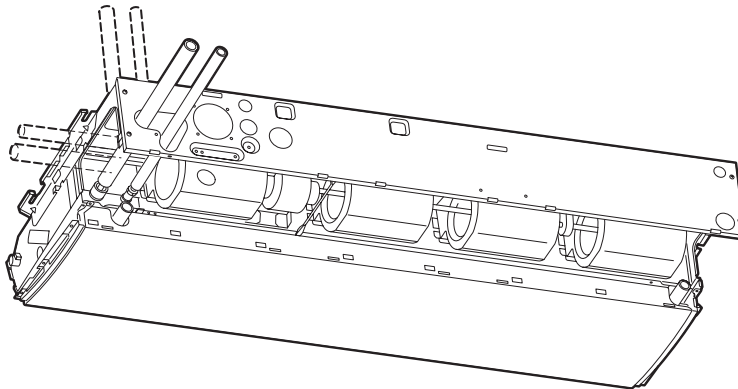

Fig. 3-51
* If the drain hose is routed through the left side, refer to Fig. 3-51, and follow the procedure above to install the hose. Rettach the rubber stopper removed earlier onto the right side. The rubber stopper can be inserted easily by using a screwdriver or similar tool to press the stopper into the drain port on the main unit. Press the stopper into the main unit drain port as far as it will go.